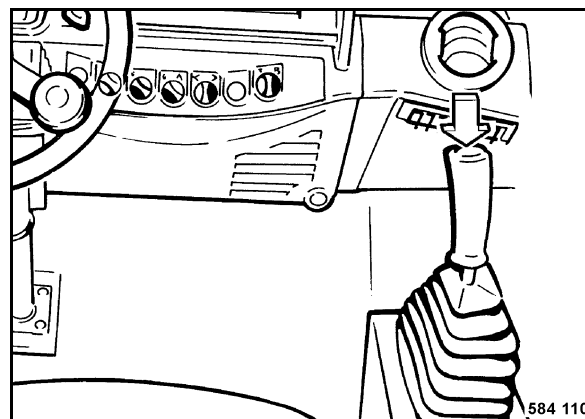

Fig. 65
- Actuate the vibration push button (Fig. 65) in the travel lever while driving.
- Press the vibration push button (Fig. 65) again.